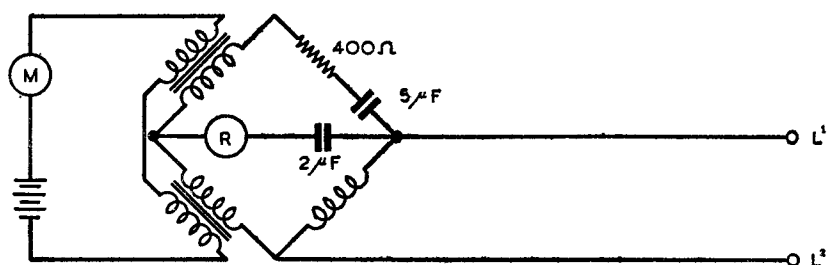

FIG. 4.—A.C. BRIDGE CIRCUIT
(b) The secondary windings form two arms of an A.C. bridge to suppress side tone (fig. 4).
- (iii) *Speech communication.* The circuit is in the form of an A.C. bridge (fig. 4), the transformer windings forming one side, the other being made up by the bridging coil, the balancing network of a 400-ohm resistance and a $5 \mu\text{F}$ condenser. A $2 \mu\text{F}$ condenser is inserted in series with the receiving unit R to prevent D.C. from passing through it. When the handset is removed from the cradle the contacts close and the microphone and battery circuit is completed. The buzzer is now used as a transformer.